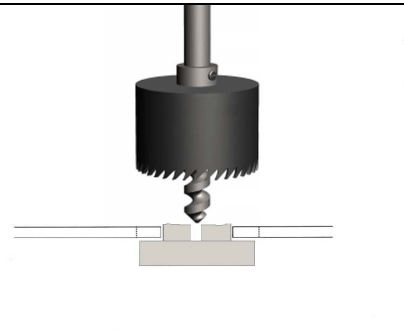

Fig.19
- Cut a 1 inch hole with a hole saw using the 1/8" hole as a guide (Fig.19).